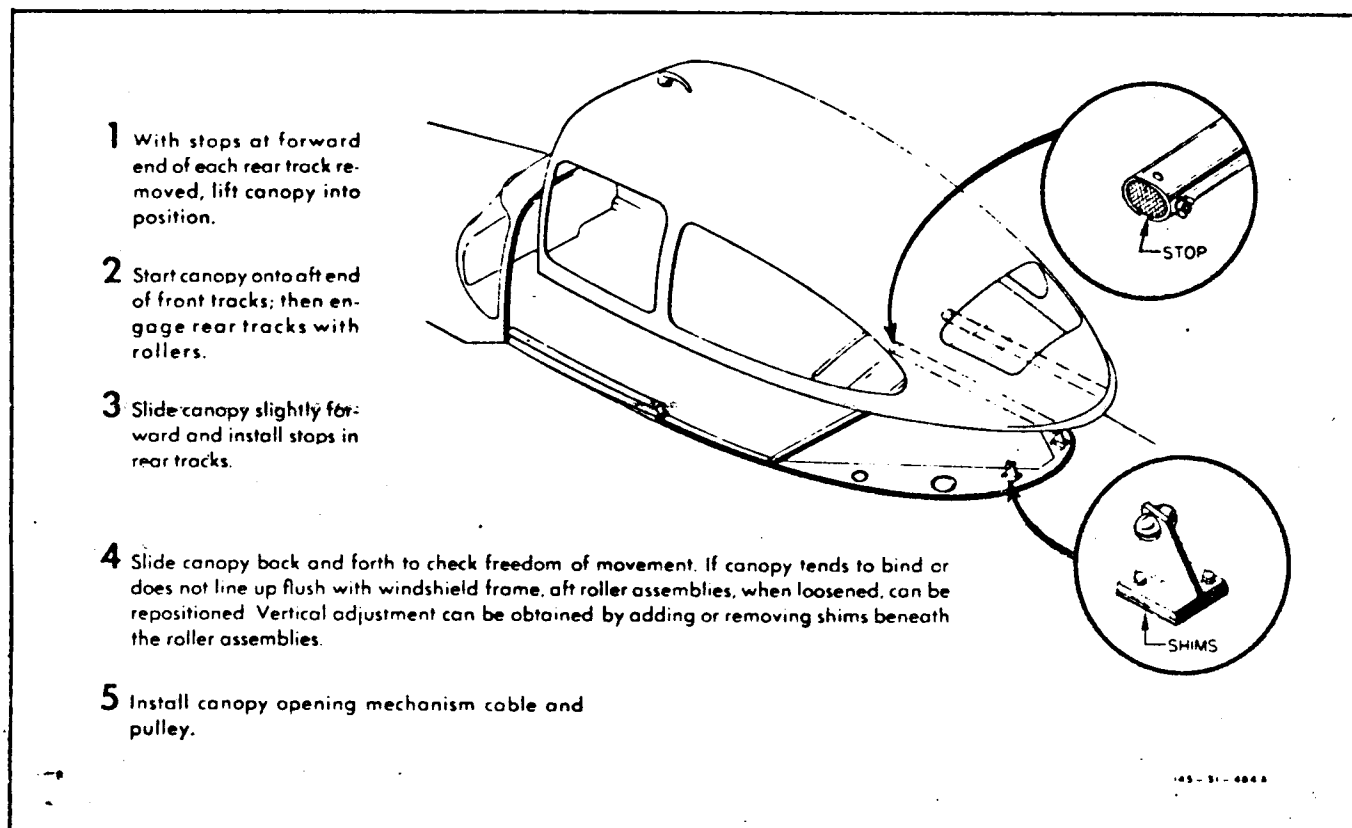

Figure 11 - INSTALLING AND REMOVING WINDOW PANELS
**Installing and Removing Sliding Canopy—See figure 11.**